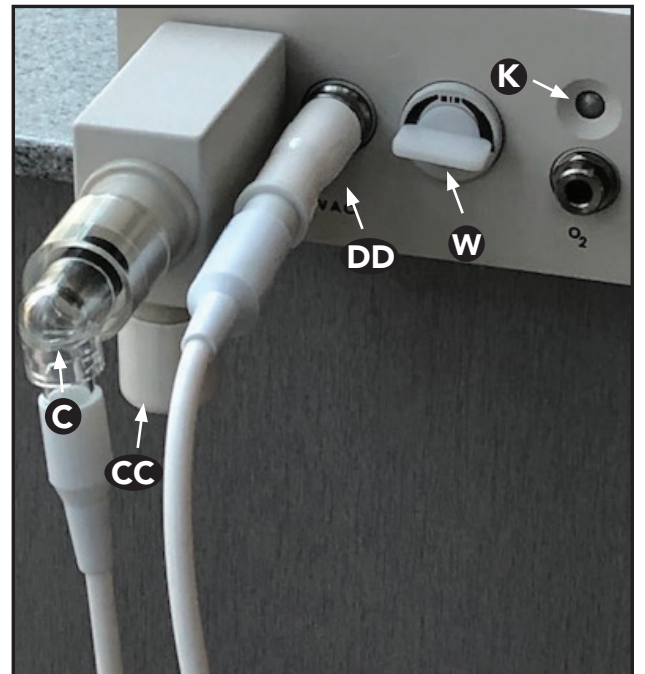

Figure 5
**Accu-Vac™ Vacuum Controller:** Connect the Axess RFS Circuit to Accu-vac Controller per Figure 5. Note that the Accuvac Adapter  (28559-FRU) is required. Do not use with standard fitting.
**Accu-Vac™ Vacuum Controller:** Adjust the flow on the Accu-vac Controller to fully open (horizontal) using knob  per Figure 5. Disregard light colors as they do not function with Axess™ Circuits.